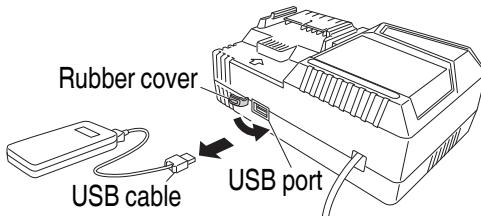

Fig. 16
- Unplug the power cord from the electrical outlet. (Fig. 16)